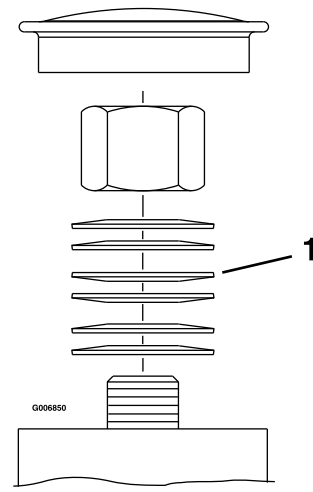
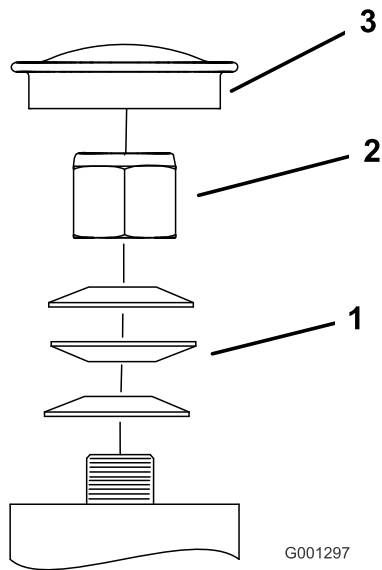

Figure 55
Figure 54
3. Remove the dust cap from the caster and tighten the locknut until the spring washers are flat, then back off 1/4 turn to properly set the pre-load on the bearings (Figure 54 and Figure 55).
Important: Make sure that the spring washers are installed correctly as shown in Figure 54 and Figure 55.